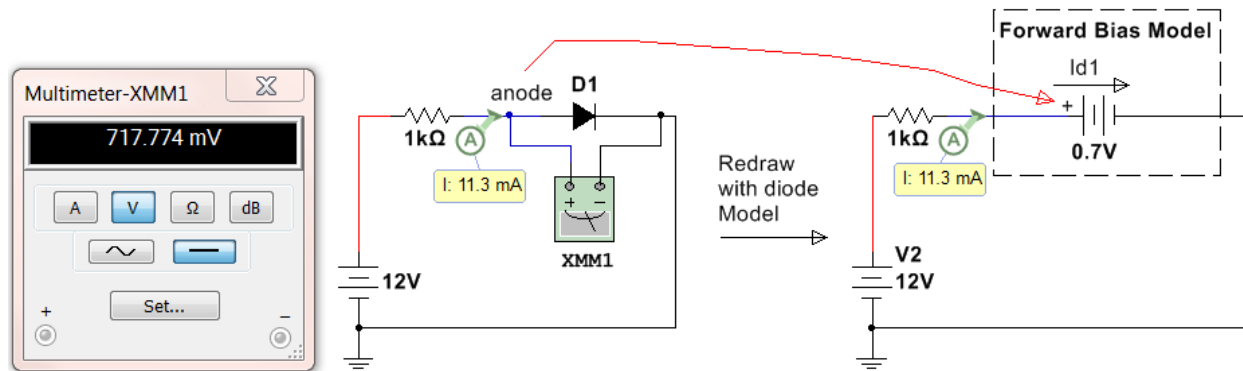

Figure 6.4: Circuit for Example 6.1
Step 2) The circuit on the right side of Figure 6.4 shows the forward bias model replacing the diode. **The node where the anode was connected is connected to the + side of the battery.** 0.7 V is used for the battery voltage because the problem stated it is a silicone diode. Next, calculate the current,  $I_{D1}$ .
- $I_{D1} = I_R = \Delta V/R = (12 - 0.7)/1k\Omega = \mathbf{11.3\ mA}$  (This is verified in Multisim in Figure 6.4)
Step 2) The circuit on the right side of Figure 6.4 shows the reverse bias model. **Notice the + side of the Multimeter that is measuring  $V_{D2}$  is on the same node as the anode was connected.** To solve for  $V_{D2}$  there are two possible methods.